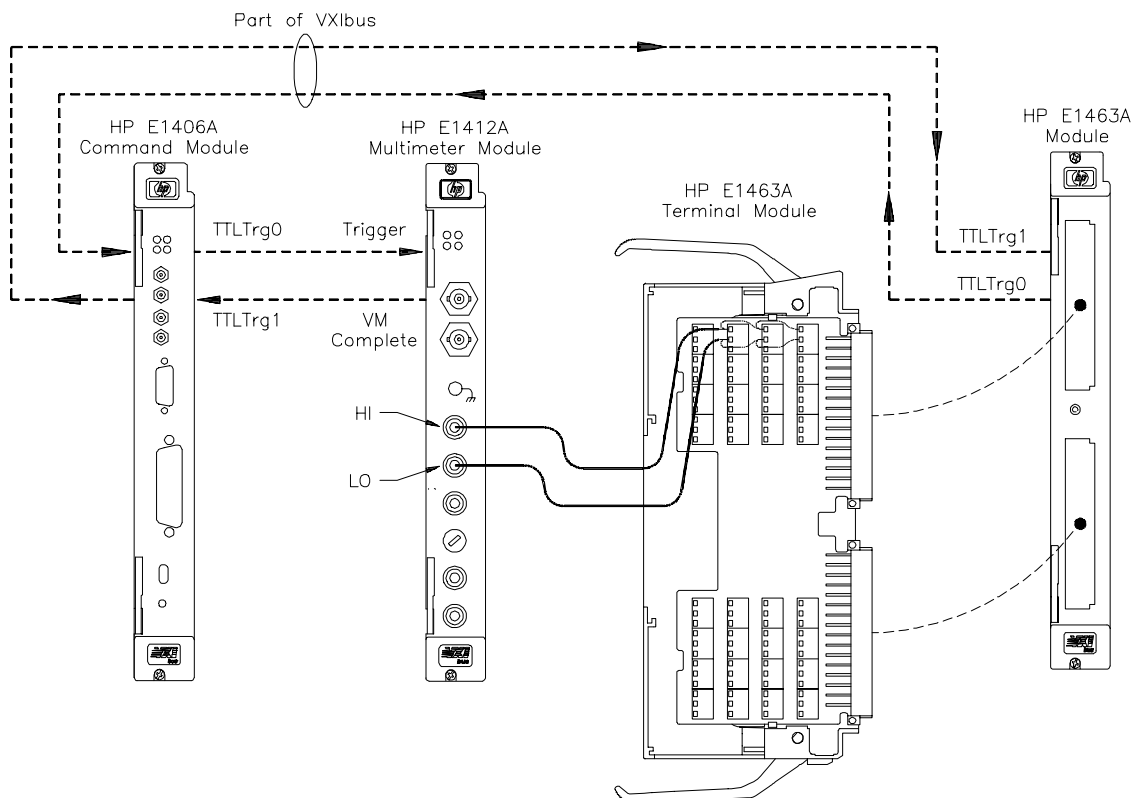

Figure 2-6. Scanning Using TTL Trigger Bus Lines
These trigger bus lines are not actual hardware connections. The triggering is accomplished by the HP E1406A's firmware. The measurement is taken from the common (C) terminal. The common terminals for channels 0 through 2 are connected together for this example. When one of these switches is closed (C connected to NO), different DUTS are switched in for a measurement. Figure 2-6 shows how to connect the Form C module to the HP E1412A multimeter module. The connections shown with dotted lines are not actual hardware connections. These connections indicate how the firmware operates to accomplish the triggering.